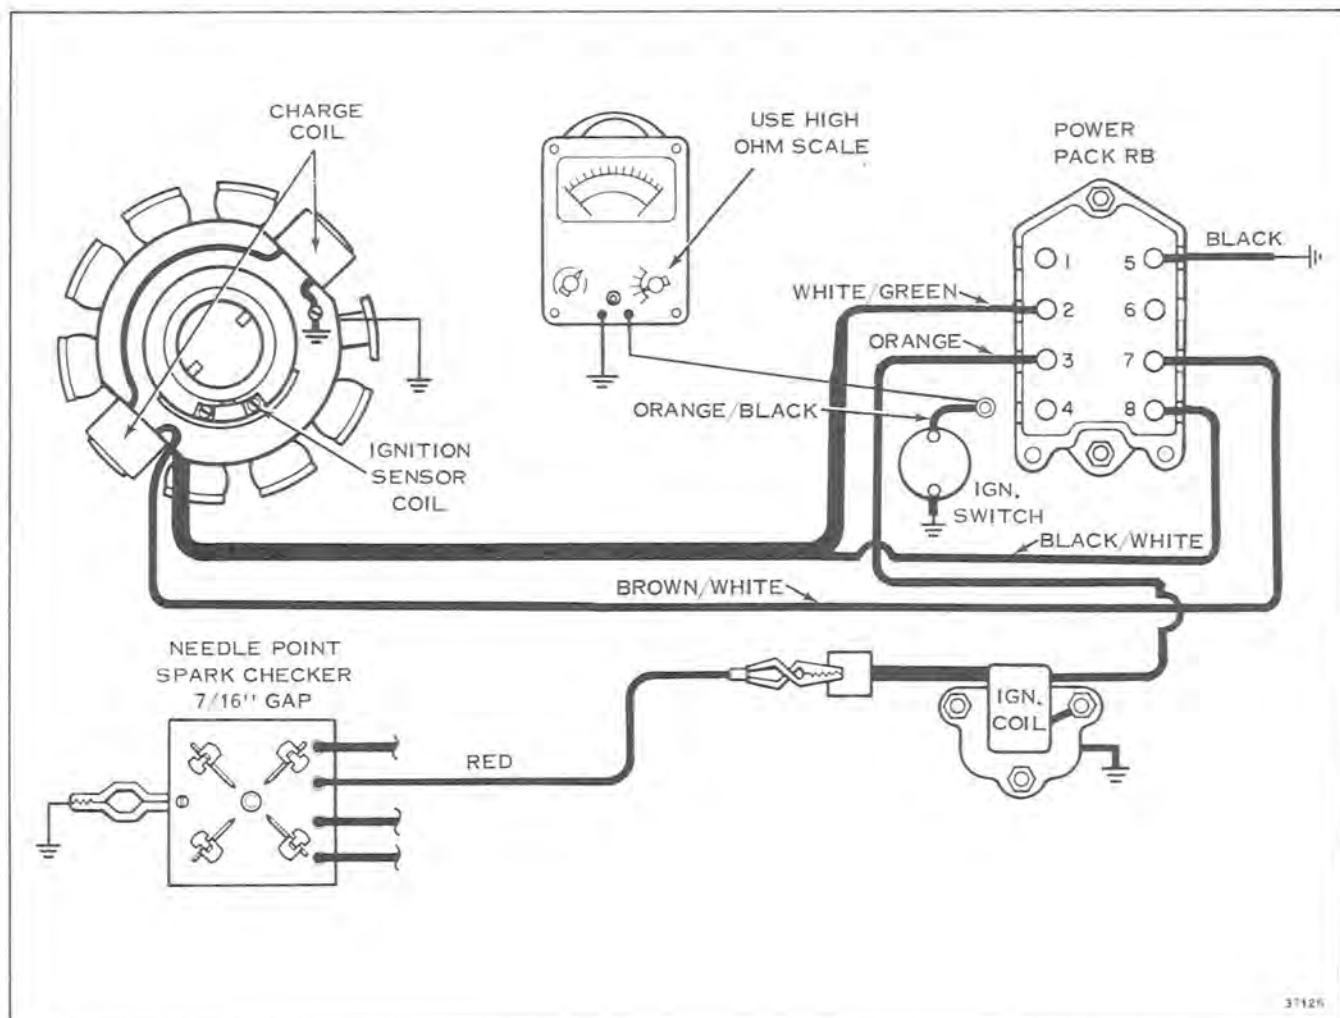

Figure 7-13
- A. Disconnect orange/black lead from Power Pack terminal #4. See Figure 7-13.